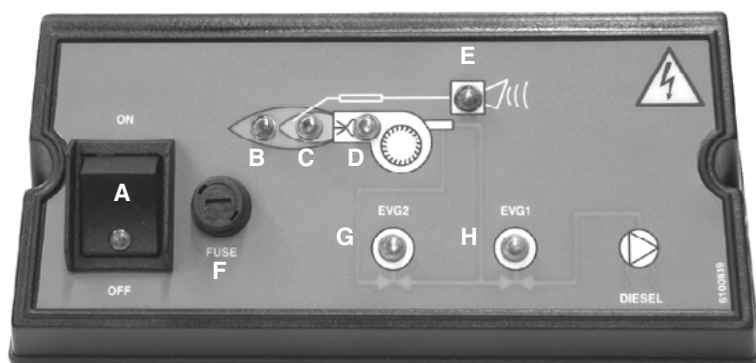

Fig. 48
- Turn on the burner using the switch **A** on the control panel (Fig. 48: the control panel of the single stage burner is only provided with the power switch and the fuse).
- Turn on the burner using the switch **A** on the control panel (Fig. 48).